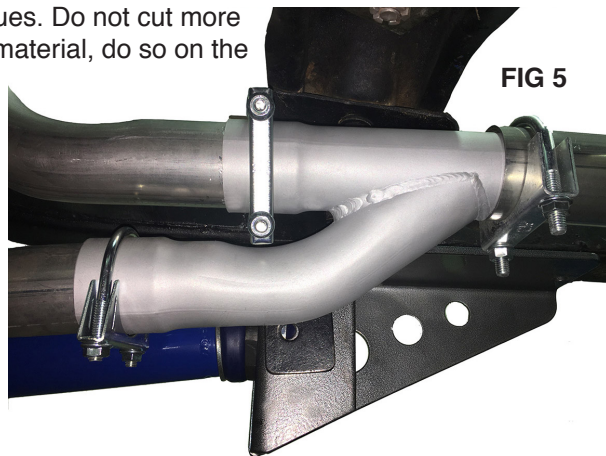

FIG 5
6. To install Y Pipe **C**, first see **FIG 5** then slide the flared ends of Y pipe **C** over Head Pipes **A & B** and loosely install two I's. Tighten them just so they are snug and add a little resistance. Don't overtighten or you will struggle to remove the pipes or move them into their correct position. Position Y-pipe **C** as shown in **FIG 5**. It's very important to do this step so the **A** pipe is in the correct position.